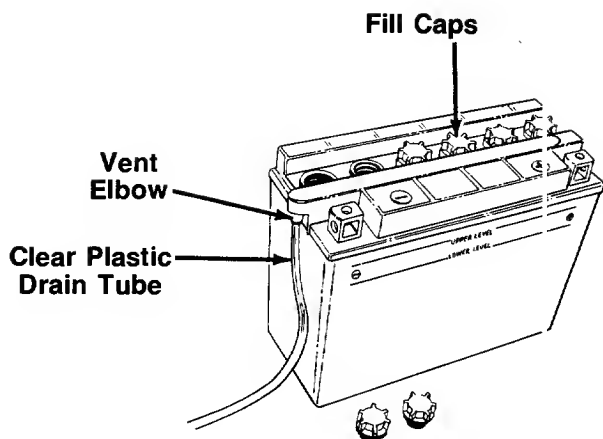

FIGURE 2.
3. Remove the six fill caps from the top of the battery. See figure 2.